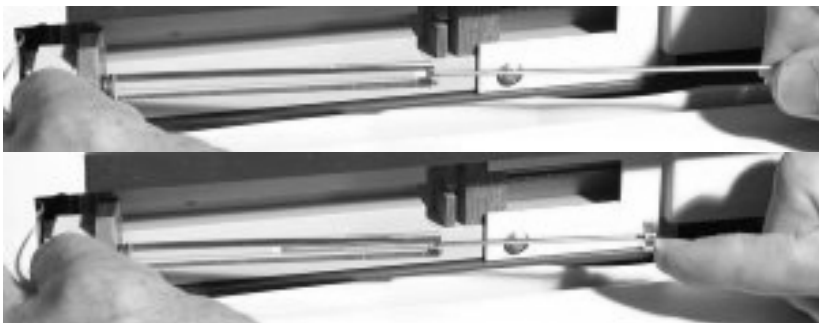

Figure 19 Replacing the plunger of the syringe
- 3 Insert the replacement plunger into the syringe, as shown in Figure 19.